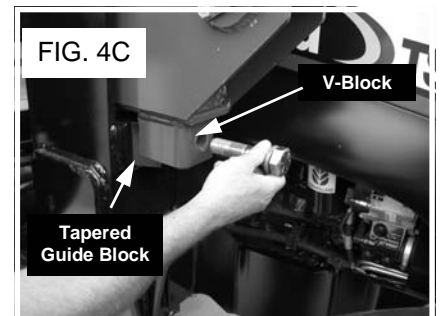

FIG. 4C
STEP 4 Once the hydraulics are functional, begin to slowly tip the bucket forward from its flat position, see Figure 4A. This will bring the upright masts of the loader towards the support shafts on the mountings (Fig. 4B). Figure 4C shows the mast completely seated on the support shaft. Once the mast is resting on the support shaft, the V-block will also be aligned with the tapered guide block. The lift cylinders can be used to rotate the upright mast and firmly seat the V-block against the guide block.